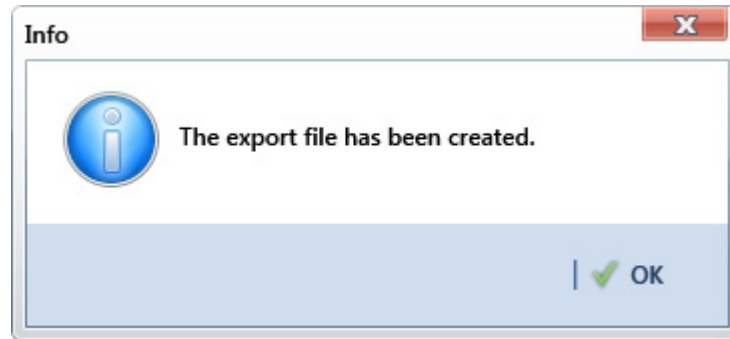

Figure 8-77. Export File Created
- 7 When the file has been created, the Info dialog box displays (Figure 8-77). Click **OK**.